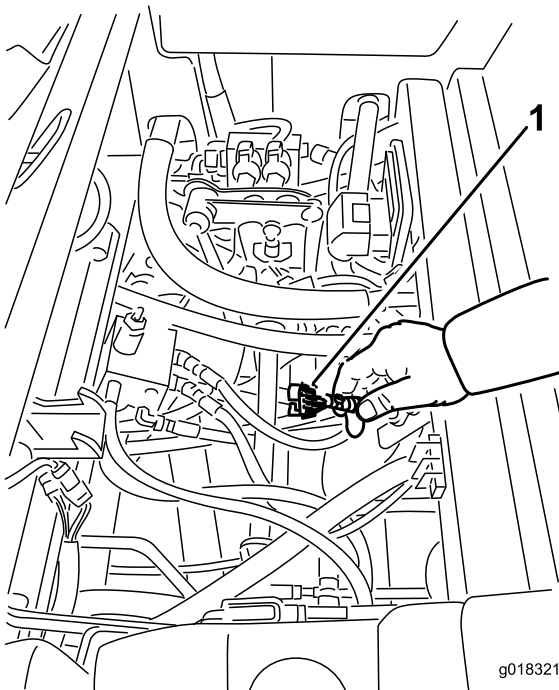

Figure 22
3. Locate the wire harness and connectors near the controller (Figure 22).